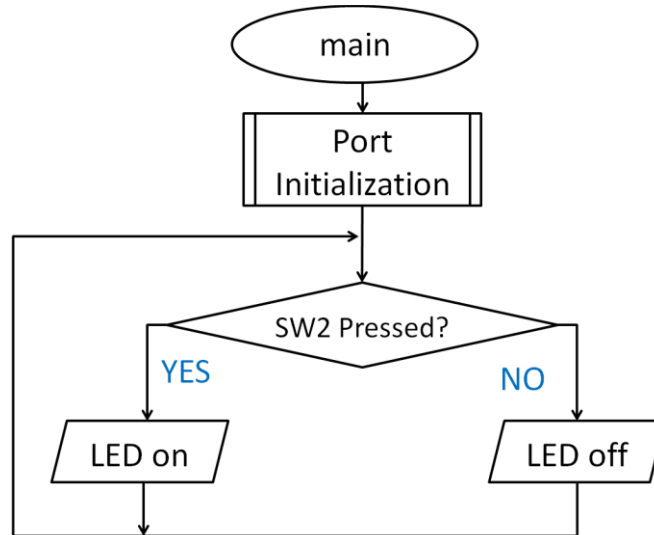

Figure 29
1. The pseudo code and the flowchart (Figure 29) of the system design are shown below, illustrating the basic steps for the system.
5. In the main function *main()*, the system is implemented by converting the flow chart shown in Figure 29 into C program. The main function starts with the port initialization function *PortFunctionInit()*, followed by an infinite while loop which checks the status of SW2 repeatedly.